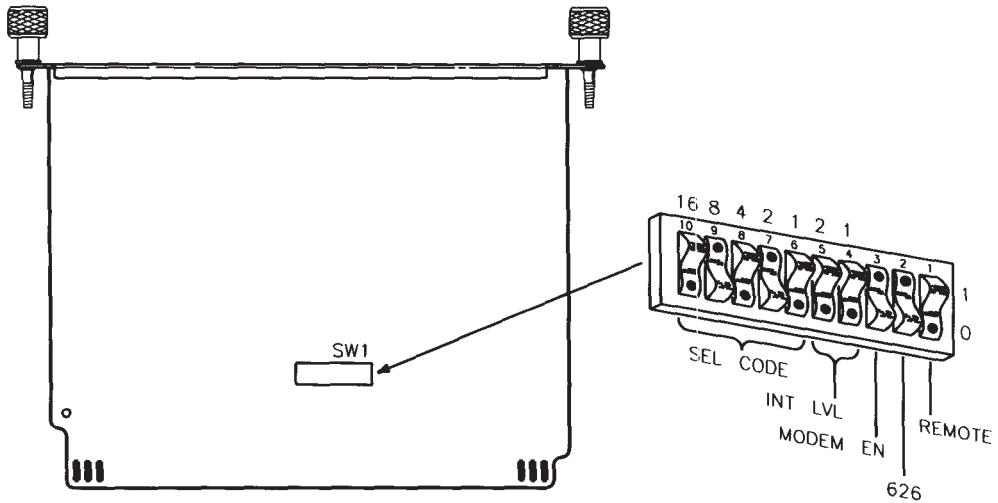

Figure 5-31.
- a. Find the group of switches labeled SW1 by referring to Figure 5-31. Switches 6 thru 10 in this group determine the select code.
- a. Find the group of switches labeled SW1 by referring to Figure 5-31. Switches 4 and 5 in this group determine the interrupt level.
- a. Find the group of switches labeled SW1 by referring to Figure 5-31. Switch 3 in this group is the MODEM ENable switch.
- If you intend to connect an HP 2686A *LaserJet* printer, an HP 92205A/C Hayes *Smartmodem*, or a uucp, set this switch to 1 as shown in Figure 5-31.
- If you intend to connect a terminal or the HP 39800/01A bar code reader, set this switch to 0, which is *opposite* that shown in Figure 5-31.
- a. Find the group of switches labeled SW1 by referring to Figure 5-31. Switch 2 in this group is the 626 switch.
- b. Set the 626 switch to *1* as shown in Figure 5-31.
- a. Find the group of switches labeled SW1 by referring to Figure 5-31. Switch 1 in this group is the Remote switch.
- If you are connecting a terminal to this interface and want this terminal to be the system console, set this switch to *1*, which is *opposite* that shown in Figure 5-31.
- If you are connecting a terminal to this interface but *do not* want this terminal to be the system console, or if you are connecting any other device, set this switch to *0* as shown in Figure 5-31.